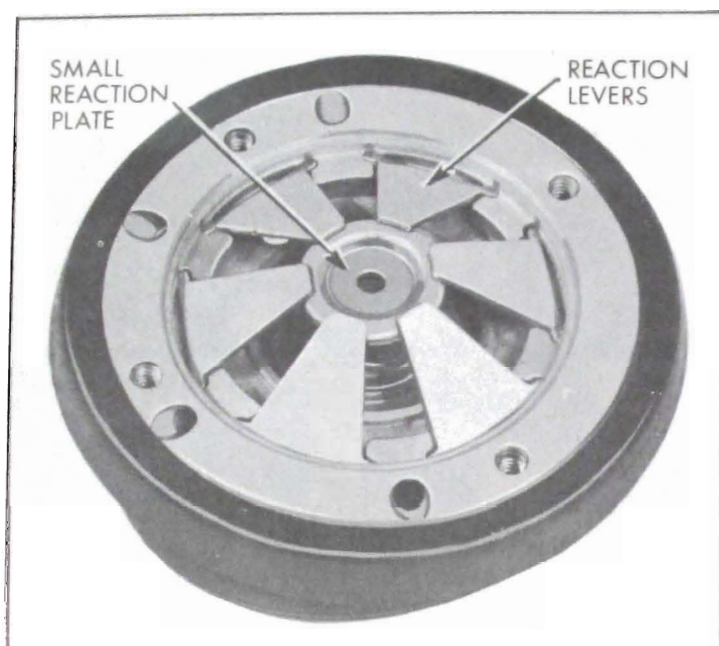

Figure 9-25—Installing Reaction Levers
10. Set six reaction levers in place with small ends resting on small reaction plate as shown in figure 9-25.